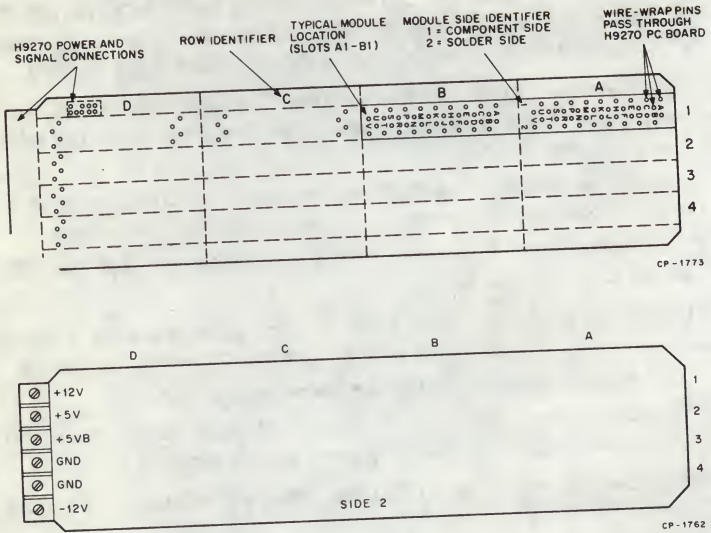

Figure 3 H9270 Backplane Terminal Block (Pin Side View Shown)
**Backplane Power Connections** — If the H780 power supply option is not used, perform the following steps to connect power to the H9270 backplane (Figure 3).